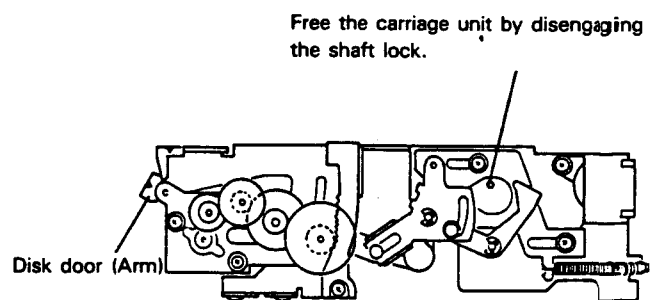

Fig. 14
- The three shafts of the carriage unit are in a free mode and the carriage unit is in an anti-vibration mode supported by the four damper units. (Fig. 14)